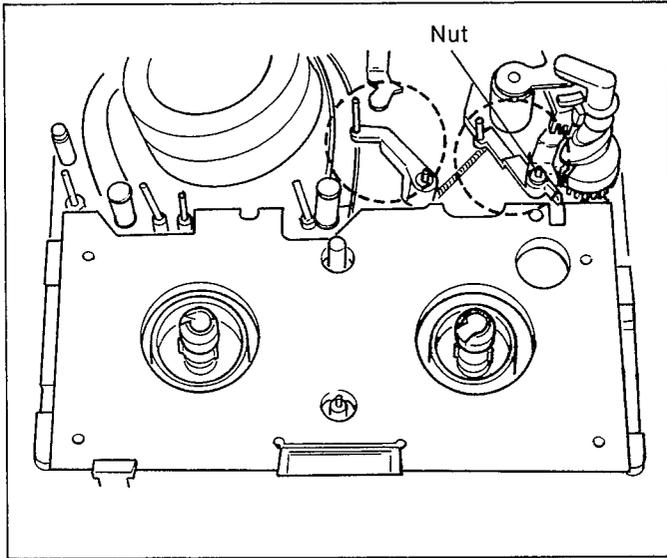

Fig. M15
3. Turn the Capstan Motor to counterclockwise (loading direction) until the mechanical condition becomes as shown in Fig. M15.